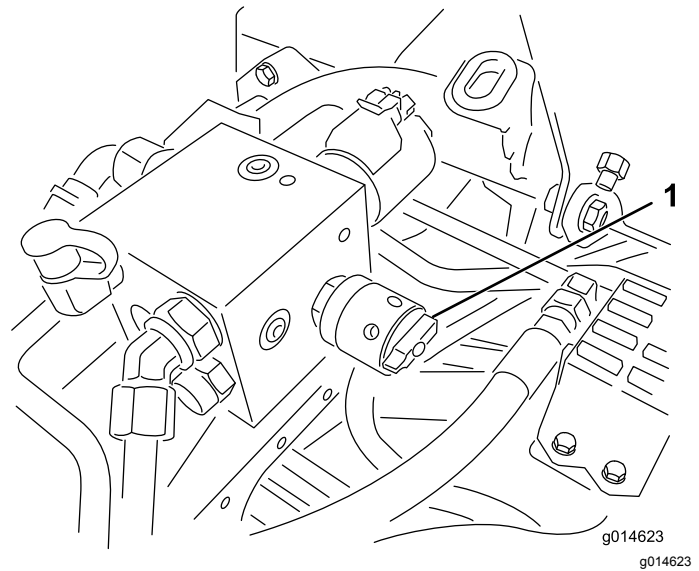

Figure 53
6. Rotate the reel-speed control to setting 1 (Figure 53).